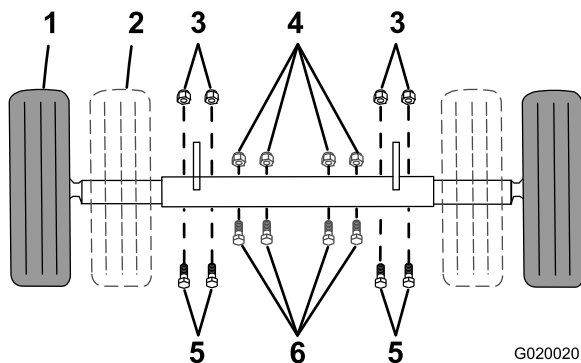

Figure 23
1. Connect the electrical plug of the machine with the electrical plug of the tow vehicle (Figure 23).
If your model is equipped with an adjustable axle (Figure 23), you can adjust the axle to the narrow position to move the machine through a narrow access point, such as the gate of a fence or the doorway of a building.
1. Support point (2)
7. Remove the bolts and nuts that secure the inner axle to the outer axle (Figure 23).
- Slide each side of the axle inward to the narrow position (Figure 23).
- Slide each side of the axle outward to the wide (tow) position (Figure 23).
9. Secure the axle with the bolts and nuts removed previously (Figure 23) and torque them to 87 N·m (64 ft-lb).